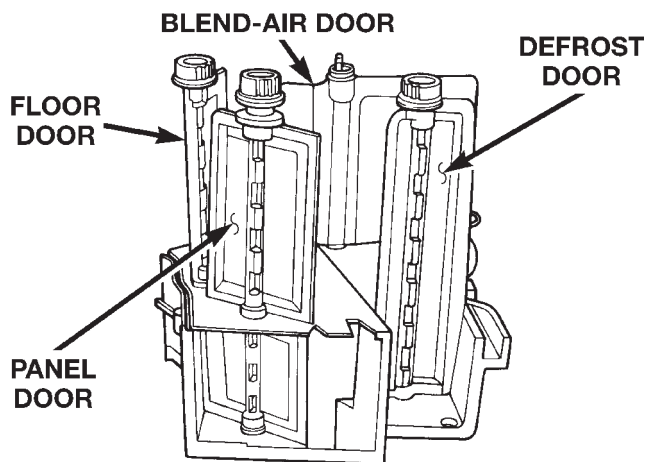

Fig. 72 Distribution Housing Halves
- (18) Remove weather-strip at fresh-air vent.
- (19) Separate housing halves (Fig. 72).